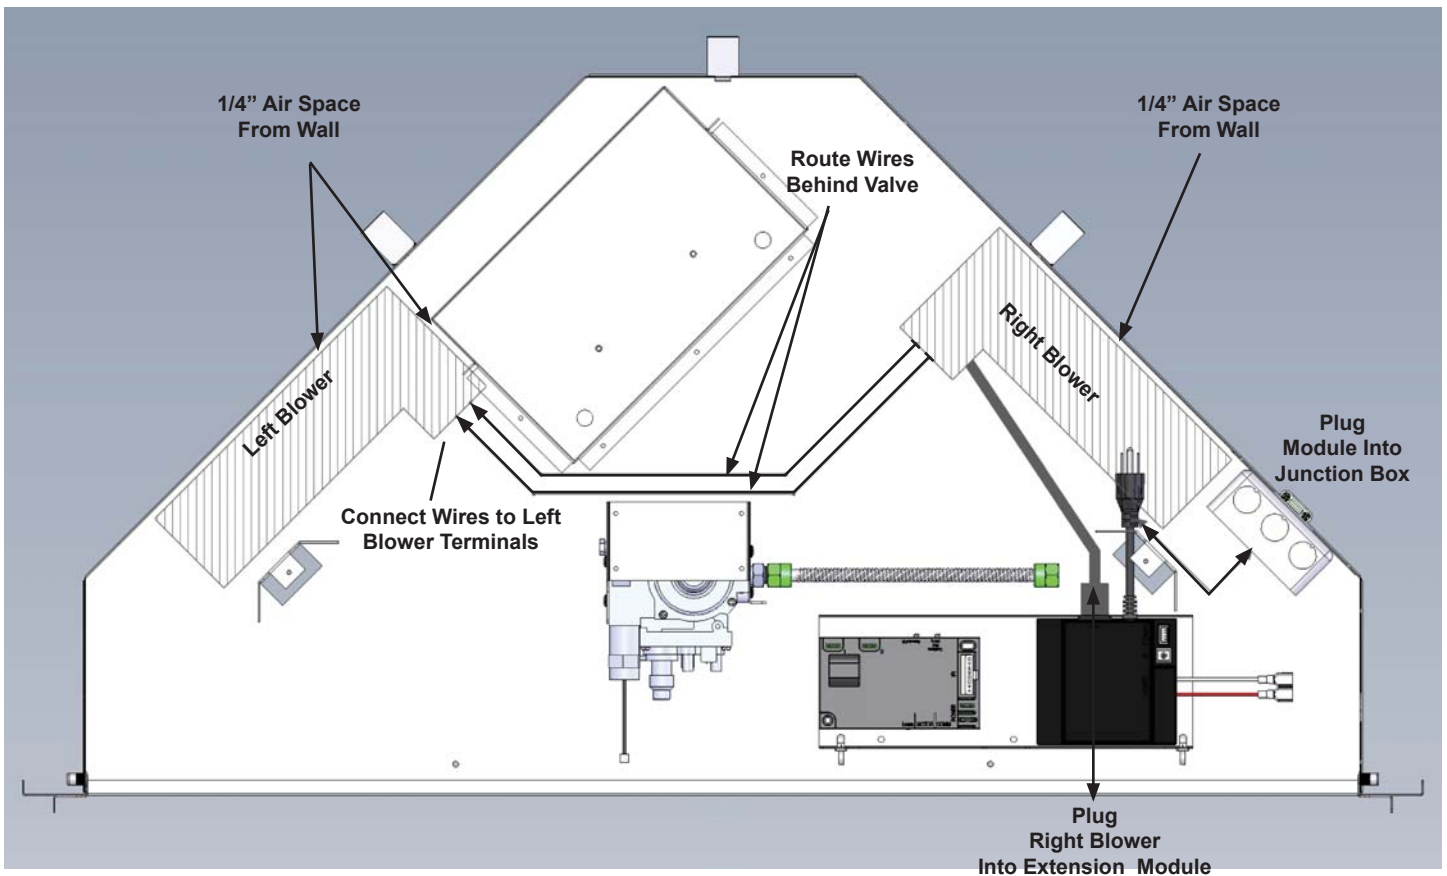

Figure 5
7. Route the blower wires behind valve from right blower to left blower and connect the wires to terminals on the left blower. Figure 5
8. Place both blowers 1/4" from the fireplace walls. Figure 5
9. Plug extension module into the electrical junction box. Figure 5